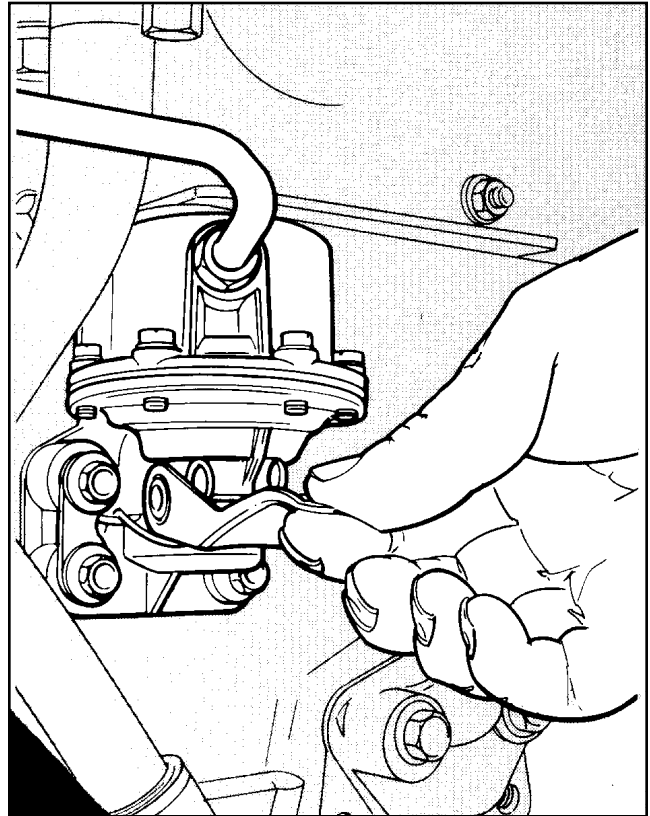

Figure 4 - Hand Priming Pump
- 5.) Operate the hand priming pump to aid in purging air from the system. (Fig. 4)